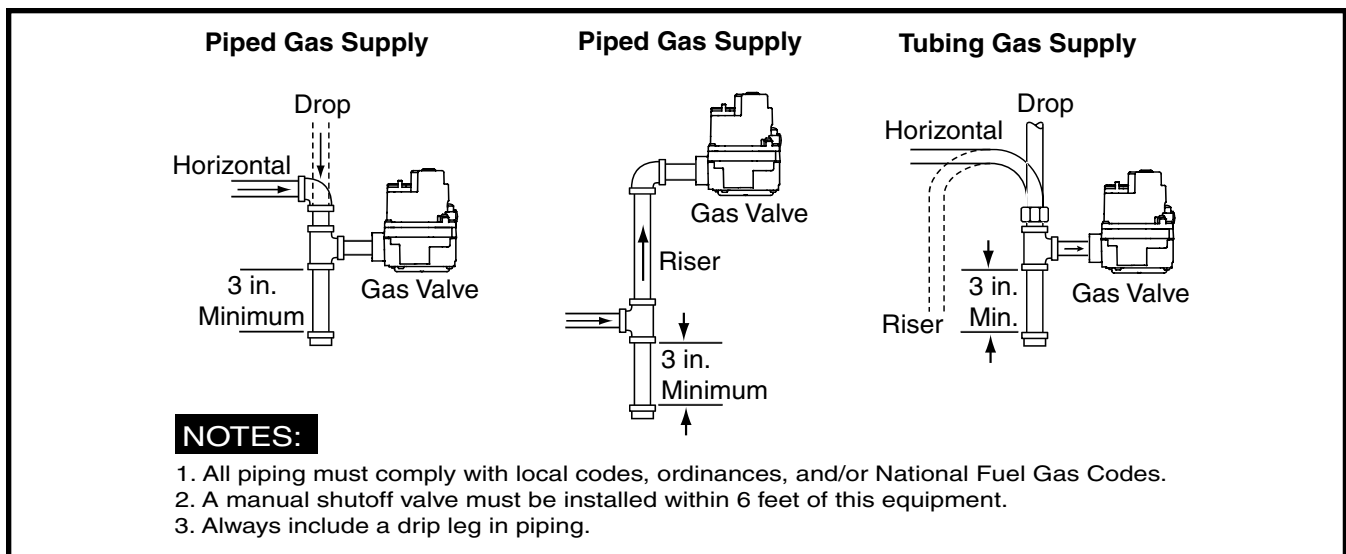

Figure 9. Typical Gas Service Connection
- Some local codes require the installation of a manual main shut-off valve and ground joint union external to the furnace. The shut-off valve should be readily accessible for service and/or emergency use. See Figure 9 (page 12). Consult the local utility or gas supplier for additional requirements regarding placement of the manual main gas shut-off.
- A drip leg should be installed in the vertical pipe run to the unit (Figure 9).
This unit only has right side gas entry. When connecting the gas, provide clearance between the gas supply line and the entry hole in the unit's casing to avoid unwanted noise and/or damage to the unit. A typical gas service hook-up is shown in Figure 9 (page 12).